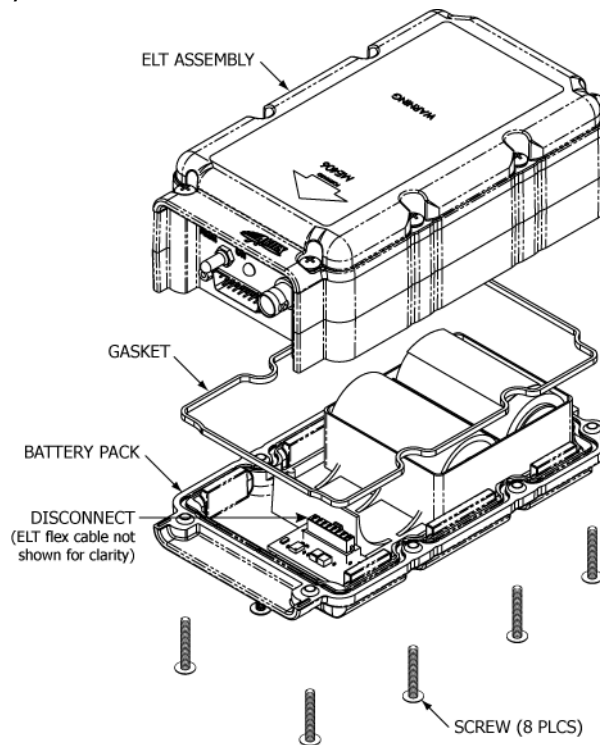

Figure 14 Battery Pack Removal
- 1) See Figure 14 Battery Pack Removal.